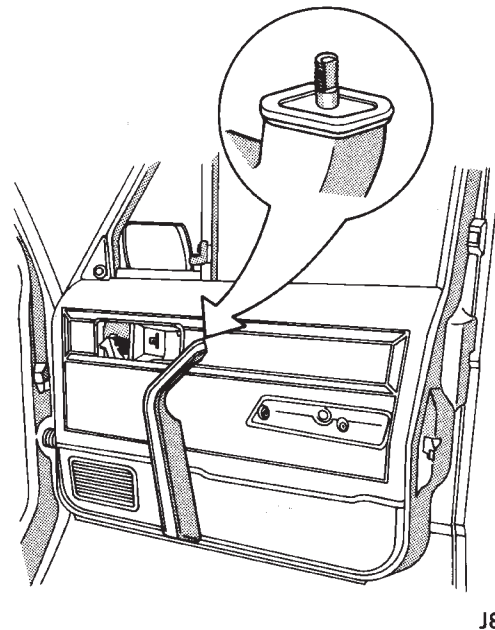

Fig. 12 Armrest Retainer Clip - XJ
- (3) Remove latch release and control panel assembly.
- (4) Remove armrest lower retaining screws.
- (5) Swing armrest downward to a vertical position. This is necessary to disconnect armrest from upper retainer clip (Fig. 12).